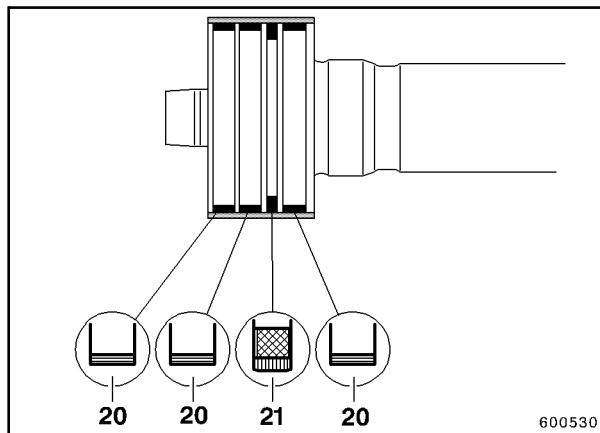

Fig. 16
- Remove the plastic guide rings (20, Fig. 16) and the OK piston seal (21).